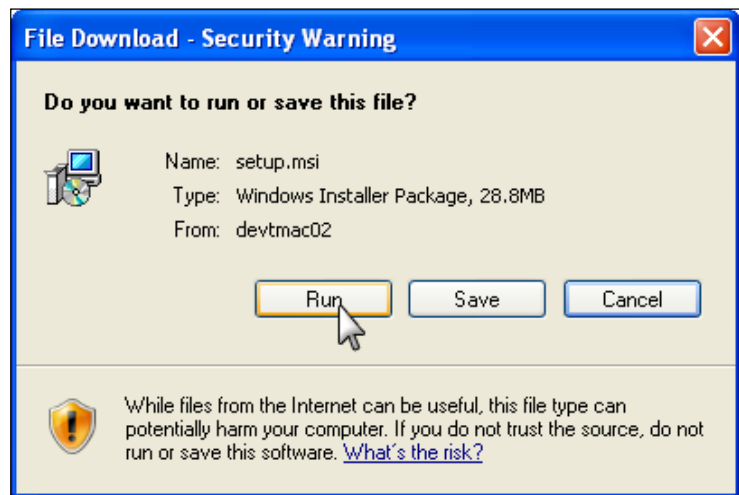

Fig. 30
2. Click *Run* in the File Download - Security Warning dialog box (Fig. 30).